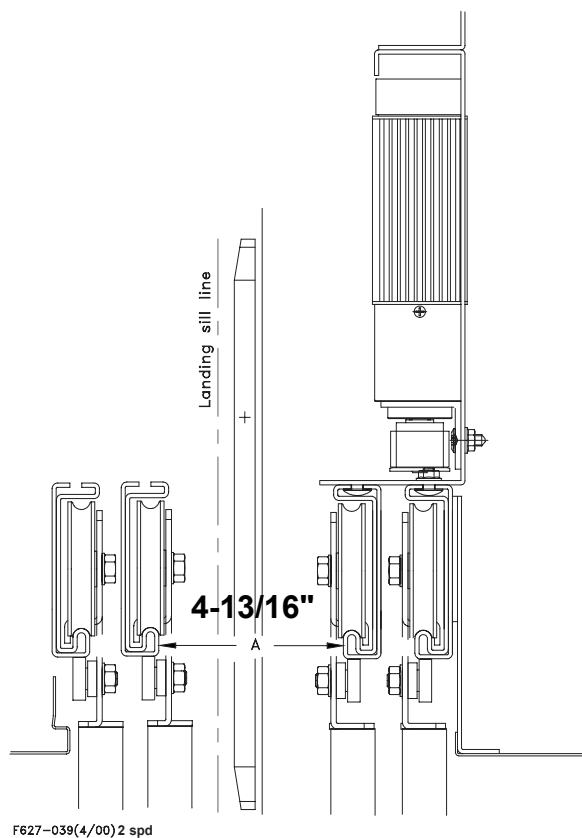

Figure 39 Check Motor Clearance Against Landing Sill Line
1. Check that dimension 'A' between the car door track and the landing door track is 4-13/16" (122 mm). See Figure 39.